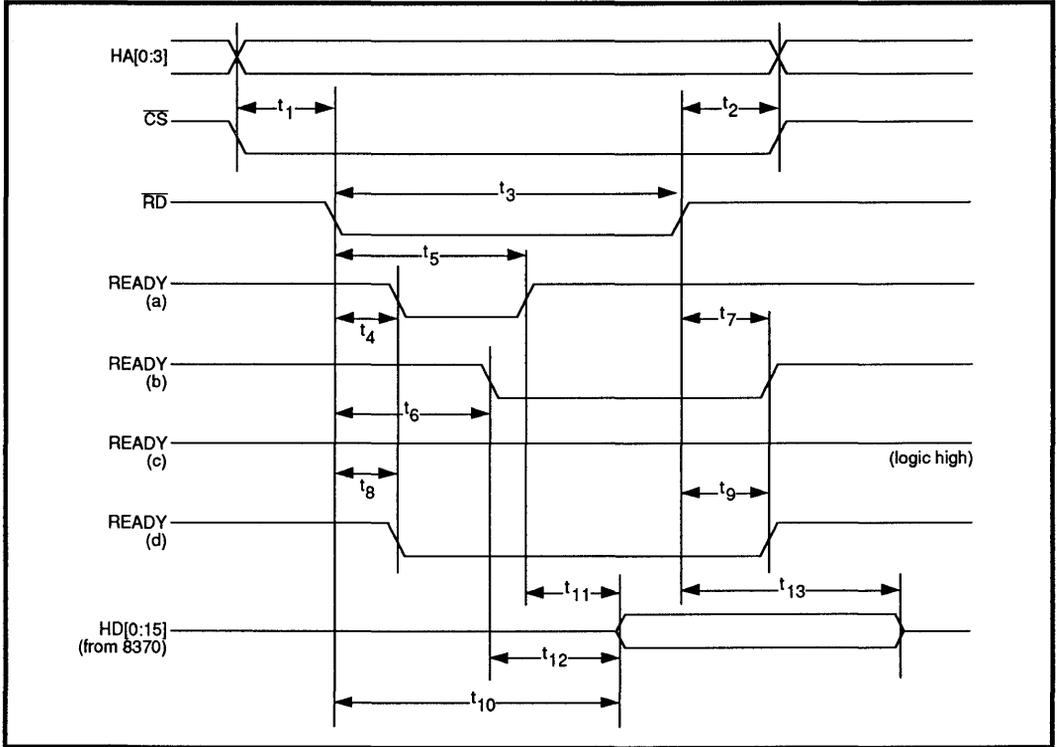
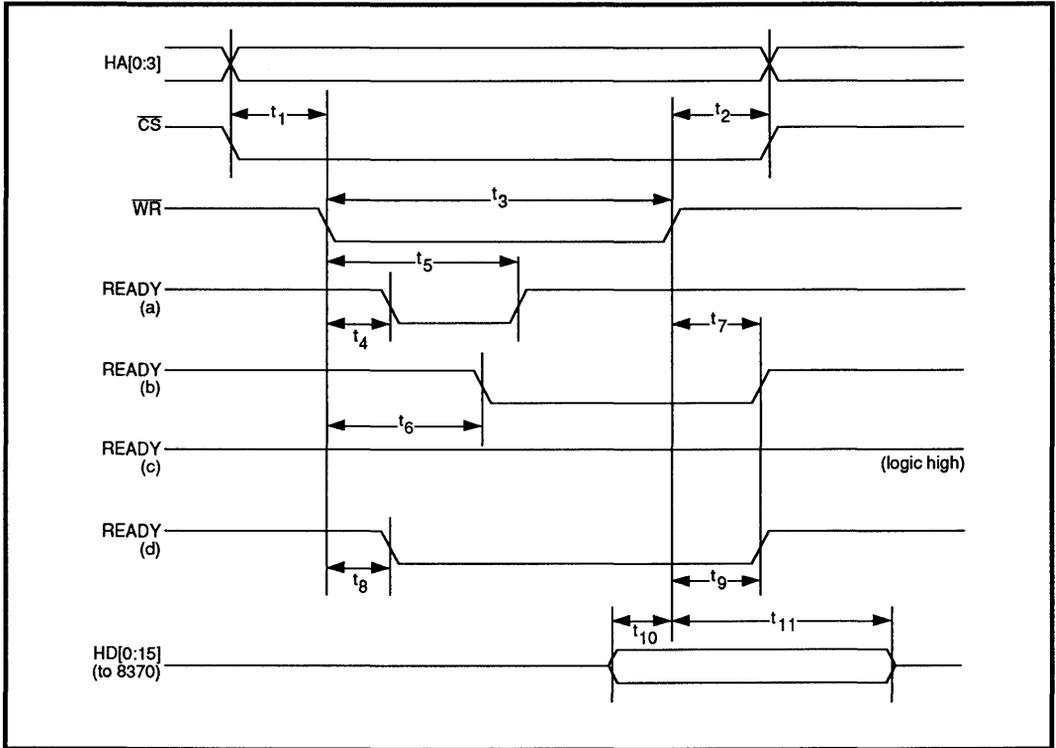

FIGURE 6: Read Cycle, Generic Bus Mode (Refer to Table 5)
FIGURE 7: Write Cycle, Generic Bus Mode (Refer to Table 10)
TABLE 9: Read Cycle, Generic Bus Mode (Refer to Figure 6)
TABLE 10: Write Cycle, Generic Bus Mode (Refer to Figure 7)
- Note: (1) An asserted EOP terminates any further DMREQ after DMACK returns high.
(2) The DMA cycle uses DMACK as the chip select. DMACK overrides CS and HA[0:3] if they are both asserted at the same time, forcing selection of the Buffer Memory Port as in a DMA cycle.
(3) For READY timing and HD[0:15] timing, see Figure 6, t_4-t_{13} , and Figure 7, t_4-t_{11} .
- Note: (1) \overline{DMREQ} goes low during the next-to-last transfer of the burst. \overline{DMACK} should not go high until after the \overline{RD} or \overline{WR} pulse of the last transfer cycle goes high
- (2) The DMA cycle uses \overline{DMACK} as the chip select. \overline{DMACK} overrides \overline{CS} and $HA[0:3]$ if they are both asserted at the same time, forcing selection of the Buffer Memory Port as in a DMA cycle.
- (3) For READY timing and $HD[0:15]$ timing, see Figure 6, t_4-t_{13} , and Figure 7, t_4-t_{11} .